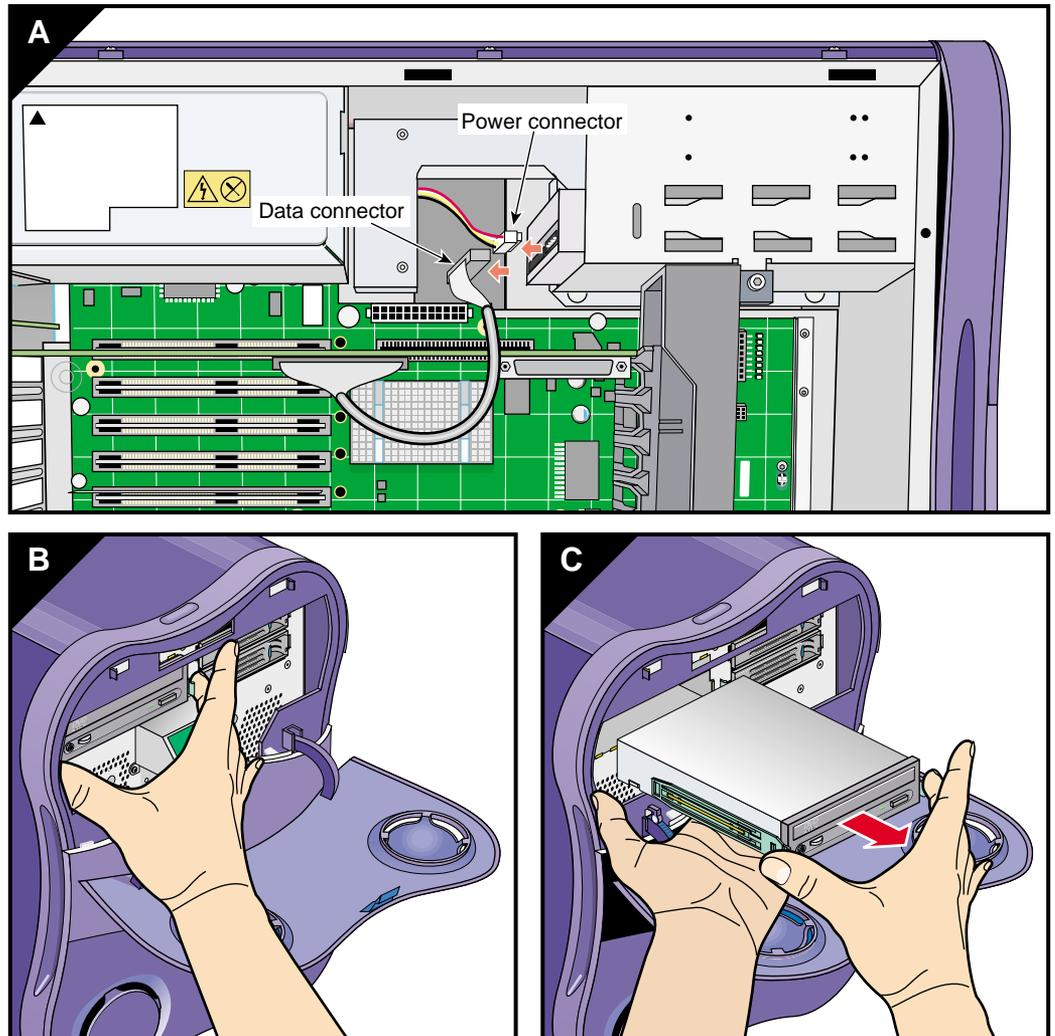

Figure 3-15 Removing the DVD-ROM Drive
2. Squeeze the tabs on the drive rails against the sides of the drive. Then slide the drive out of the drive cage (see Figure 3-15).